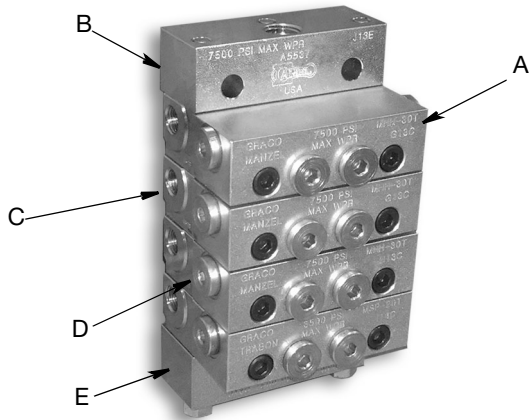
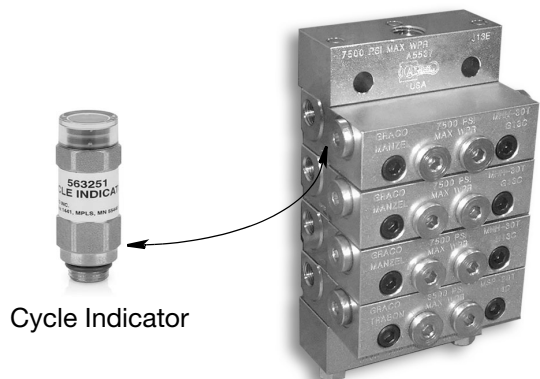

FIG. 4
FIG. 10
NOTE: The MSP Divider Valves shown in FIG. 4 - FIG. 10 are provided for reference only. The MSP Divider Valves used in your installation may include fewer or more blocks and appear slightly different than those shown in the reference figures.
6. Install cycle indicators in valves (FIG. 10).